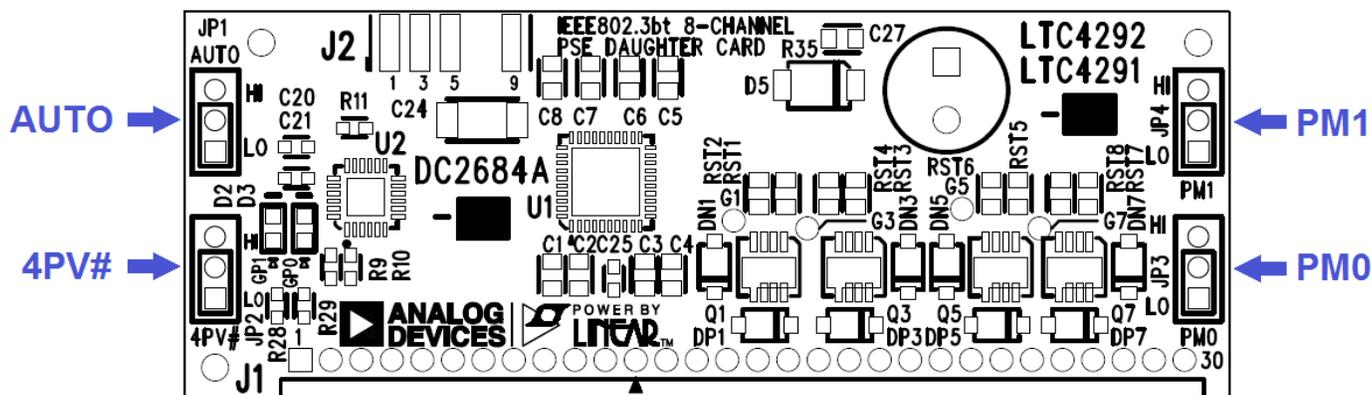
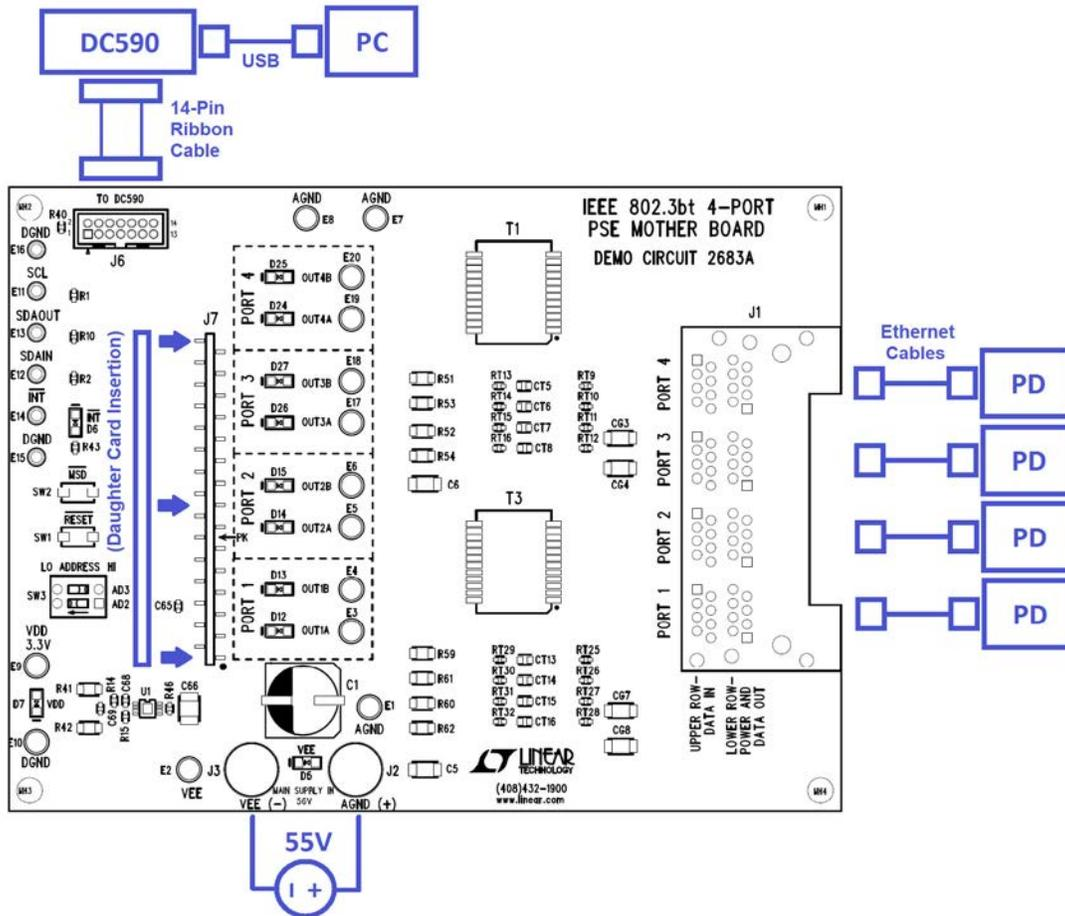

Figure 1. DC2684A-B Jumpers: AUTO, 4PV#, PM0 and PM1
Figure 3. DC2685B Kit Connections
Follow the quick start procedure below for basic operation of the DC2685B kit. Refer to Figure 1 through Figure 3 and Table 1 through Table 4 for proper equipment setup.
1. On the DC2684A-B daughter card set AUTO jumper JP1 (Figure 1) to a selected AUTO mode setting shown in Table 1.
2. On the DC2684A-B daughter card set 4PV# jumper JP2 (Figure 1) to a selected 4-Pair Valid setting as shown in Table 1.
3. On the DC2684A-B daughter card set PM1 jumper JP4 and PM0 jumper JP3 (Figure 1) to the power mode for evaluation specified in Table 2.
5. Connect a supply to the motherboard with the positive rail to AGND (+) and negative rail to V_{EE} (-) as shown in Figure 3. Use a power supply capable of sourcing the maximum delivered power for all four ports set by JP3 and JP4 on the daughter card (or I²C configured power). Ramp the supply up to within the recommended voltage range specified in Table 3.
8. Connect the DC590 to the DC2683A at connector J6 with a 14-pin ribbon cable as shown in Figure 3 and open the QuikEval GUI. A GUI for the LTC4291-1/LTC4292 is brought up by QuikEval. (Follow the DC590 demo manual instructions if this has not been previously setup.)
9. Connect up to four PDs to the DC2685B RJ45 connector J1, bottom row ports 1-4 as shown in Figure 3.
The V_{EE} supply is the main PoE supply and connects to the DC2683A with the positive rail to AGND (+) and the negative rail to V_{EE} (-) as shown in Figure 3 of the Quick Start Procedure. The voltage must be within the range shown in Table 3 depending on the application PSE type. For full load testing at each port, choose a power supply that is set with a current limit higher than the maximum allowed output power at each port.